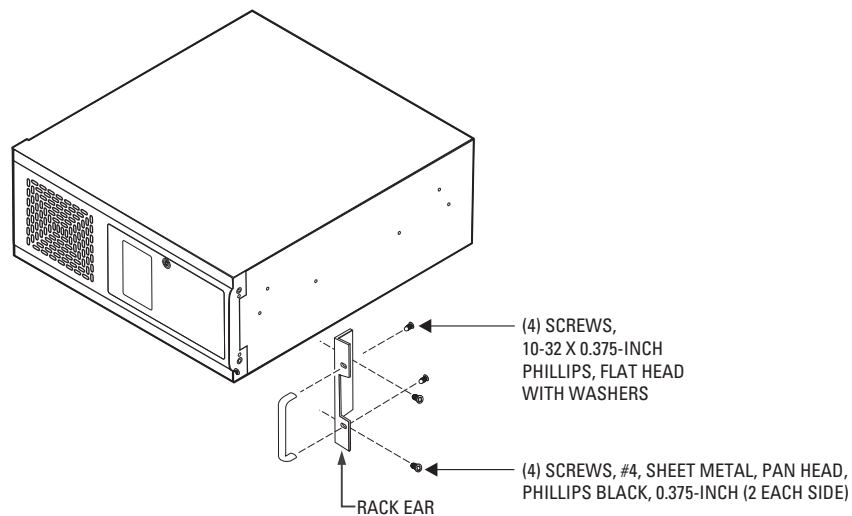

Figure 6. Attaching Rack Ears and Handles
2. Attach the handles to the rack ears using the four provided 10-32 x 0.375-inch Phillips screws. Refer to Figure 6.